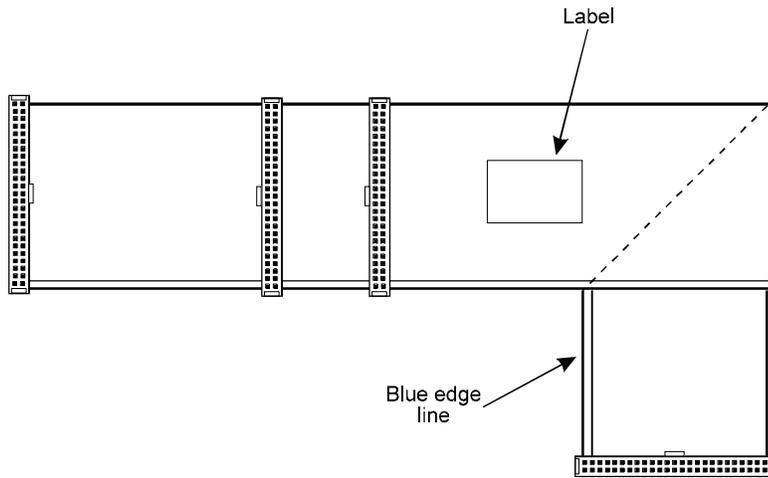
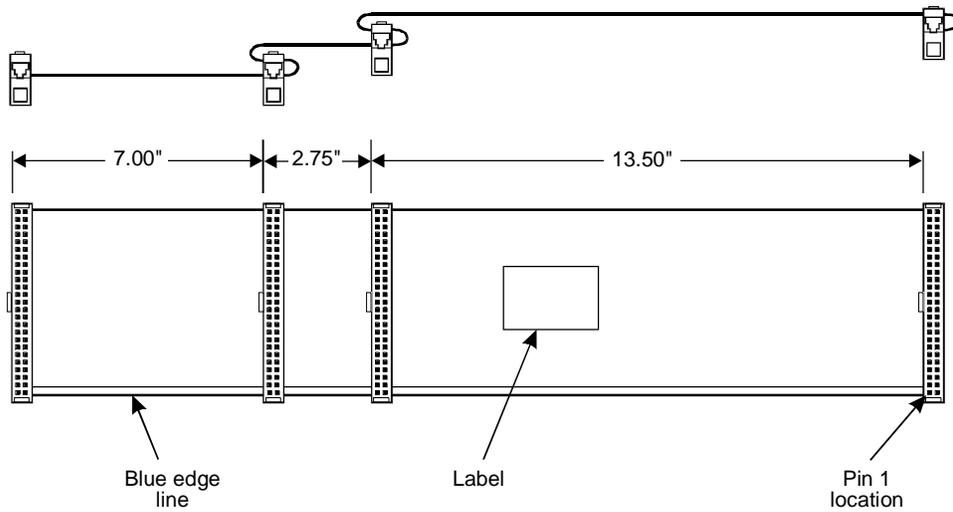

Figure 10-8. SCSI Cable for SCSI Peripherals - Folded View
Figure 10-9. SCSI Cable for SCSI Peripherals
1. Figure 10-8 shows the SCSI cable as it comes from the factory. Attach the SCSI cable by aligning it with the pins on the cable receptacle and pushing it on. All connectors are "keyed" to prevent incorrect installation (see Figure 10-9).